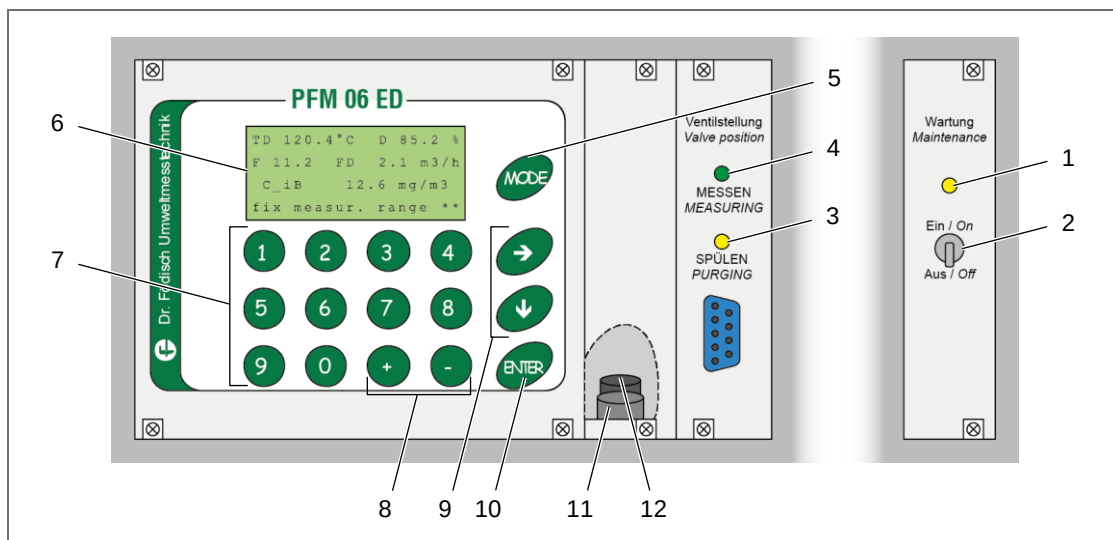

Fig. 22: Display and operating elements
Via the text display (6, Fig. 22, page 46) the measuring values as well as the menu navigation are presented. The measuring value display shows the current measuring values – selectively on standard or service mode. The last line is defined by the status line. There additional messages as well as states of probe and dilution air heating are displayed.
The LED “MEASURING” (4, Fig. 22) lights when the device is set to measuring operation via the 3/2-way ball valve (see section 4.1.1, page 21).
By exerting the maintenance switch (“On”/“Off”; 2, Fig. 22) the device is set to maintenance mode. At activated maintenance mode the belonging LED (1) lights up. In the status line of the text display “maintenance state” is displayed.
By pressing the key “MODE” (5, Fig. 22) there is a switchover between different display possibilities.
By pressing the keys → and ↓ (9, Fig. 22) the navigation within the menu levels is made. The key → enables moving forward in the menu as well as between the numeral positions at parameter input. Via the key ↓ it is possible to move back from a subordinate menu to the superordinate menu level and to move forward there. Furthermore, the key ↓ serves the decreasing of numerical values at parameter inputs.
By pressing the key “ENTER” (10, Fig. 22) the selection to subordinate menu levels or to parameter input is done. Settings at parameter input or function selection are acknowledged via the key “ENTER”. Thereby there is an automatic change back to the superordinate menu item.
The keys + and – (8, Fig. 22, page 46) have different functions. At activated parameter input they serve the change of algebraic sign of the numerical values.
The numerical keys (7, Fig. 22) have different functions. Basically, they serve the input of numerical values at parameter setting. Within the menu navigation there are respective selection possibilities which are assigned to the single numerical keys, so that the access to the desired subordinate menu level is enabled. In exceptional cases (e.g. selection of mode output, switch-on/-off of functions) the respective selection is activated directly.
The set push-button (11, Fig. 22) is placed covered at the operating device. It is located behind the cover rightwards next to the operating keys (fore push-button). For pressing the push-button the cover must be untightened and removed via the two screws.
The reset push-button (12, Fig. 22) is placed covered at the operating device. It is located behind the cover rightwards next to the operating keys (behind the set push-button). For pressing the push-button the cover must be untightened and removed via the two screws.